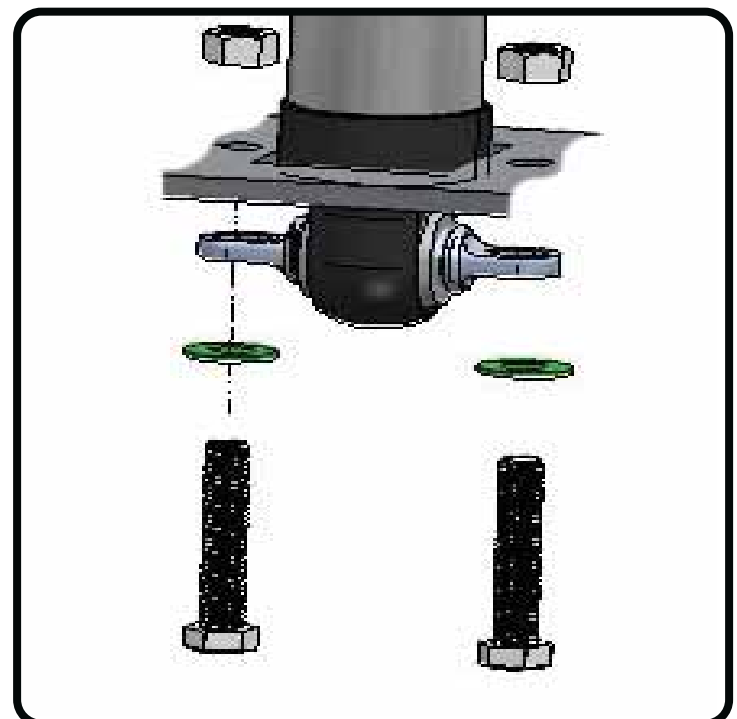

Figure 2
4. Attach the Trunnion to the OEM Control arm using the OEM hardware (Figure 2). It may be necessary to rotate the Trunnion to get it in the correct position. This can be done by sticking a screwdriver in one of the slots and spinning the trunnion in the shock bushing.